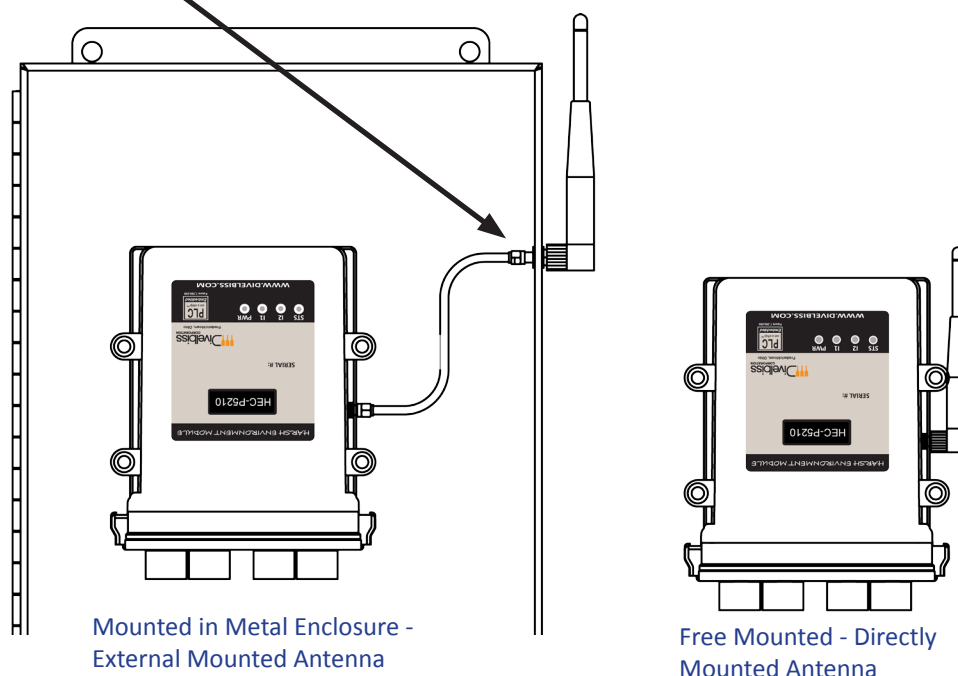

Figure 2-54 -Antenna Mounting Options
3. Click the **ADD DEVICE** button. The **PLCHIP-PXX Devices** window will open. Locate the **VersaCloud** in the Devices pane of this window. Click / select **VersaCloud** (highlight). Refer to Figure 2-54.